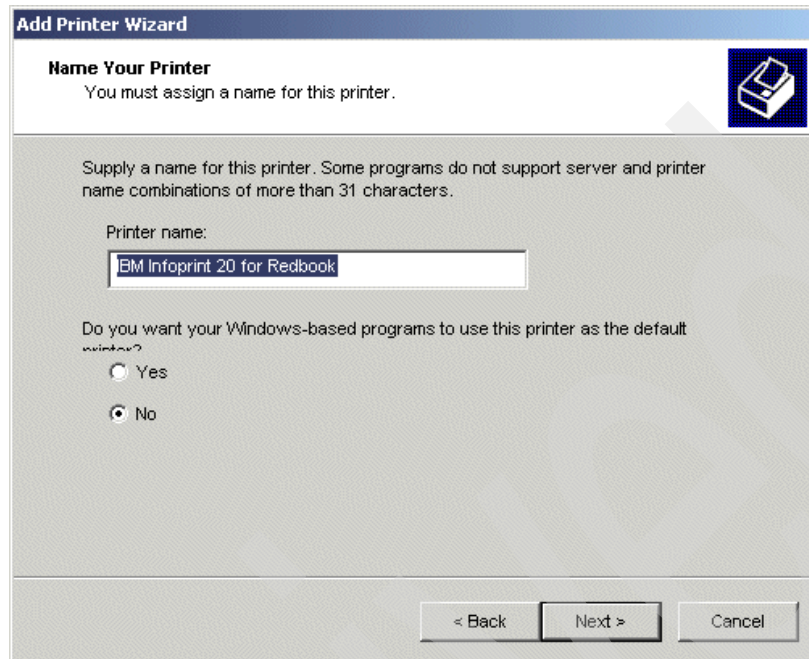

Figure 127. Naming your printer
8. Proceed to the next window to name your printer as shown in Figure 127. Give a name to the printer. The name appears under the printer icon after the printer is created. If you want use this new printer as the default for your